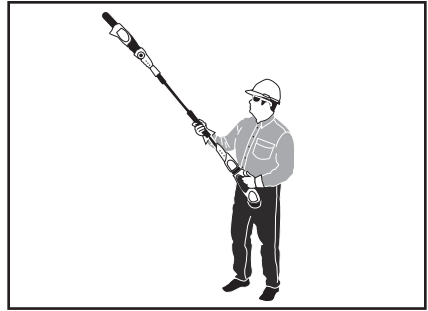

Figure 19
**HOLDING THE POLE SAW** – Hold the pole saw firmly with both hands when the motor is running. Use a firm grip with thumb and fingers of one hand encircling the control handle, and the thumb and fingers of the other hand encircling the fiberglass pole. (see figure 19)